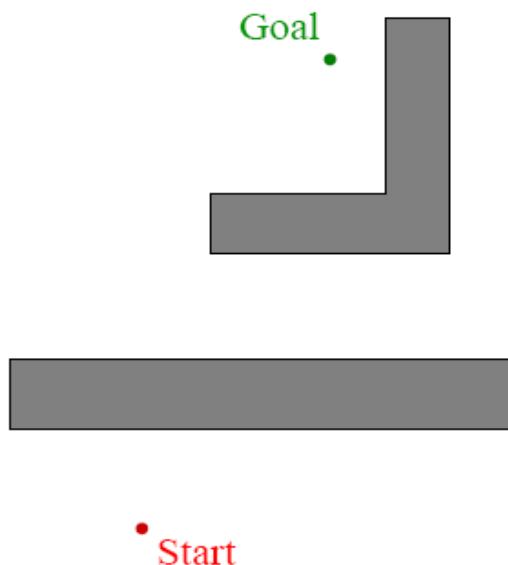

Figure 1
BUG 0 ALGORITHM: As shown in figure 1, we have to set a goal anywhere in the plane and there might be or might not be obstacles in the path. And the Robot have to first identify the Goal in comparative to his own location and then start moving towards it and it should turn according to the angle of rotation required for facing towards goal.
3. In third “if condition”, till the values of all the sensors 0,1 AND sensors 6,7 is less than 500 and the value of sensor 5 ranges from 500 to 550 OR sensor 4 should be greater than it will go straight so in this condition, the robot is maintaining a particular distance of 1 cm from wall. As shown in fig 1. The syntax is shown below:
5. In fifth “if condition”, till the values of all the sensors 0,1 AND sensors 6,7 is less than 500 and the value of sensor 5 ranges from 550 to 600 which means the robot is going near to the wall, so it will take slight right turn and will come in the third if condition to maintain 1 cm distance from wall. As shown in fig 1. The syntax is shown below: